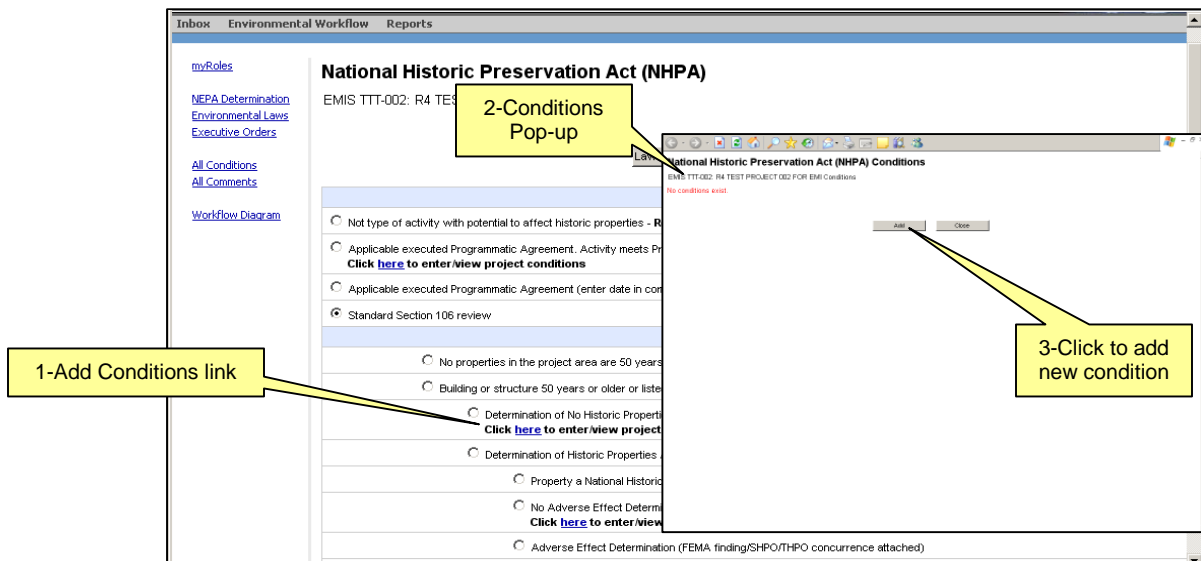
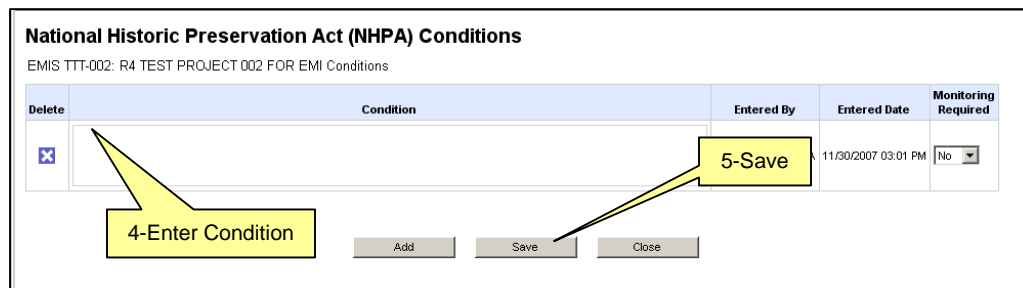

Figure 3.10: Adding conditions
Figure 3.11: Adding conditions (2)
- Click on the **Click here** link shown in Figure 3.10 (1)
- The *Conditions* pop-up screen will appear as shown in Figure 3.10. (2)
- Click **Add** (3)
- NHPA Conditions screen will appear (Figure 3.11) – Enter a condition (4)
- Click on **Save** (5)